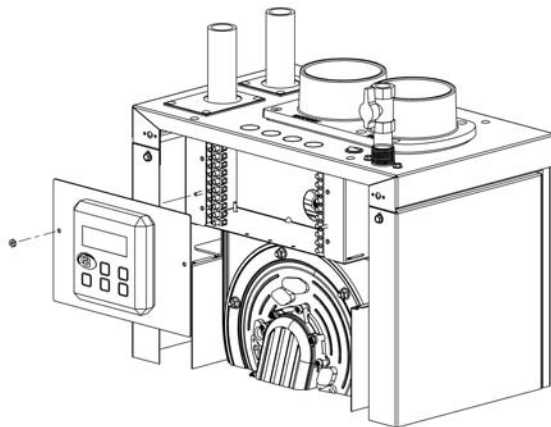

Figure 7.1: Electrical Terminal Access
2. Electrical terminals are located behind the User Interface and can be accessed by loosening the two nuts shown in Figure 7.1.